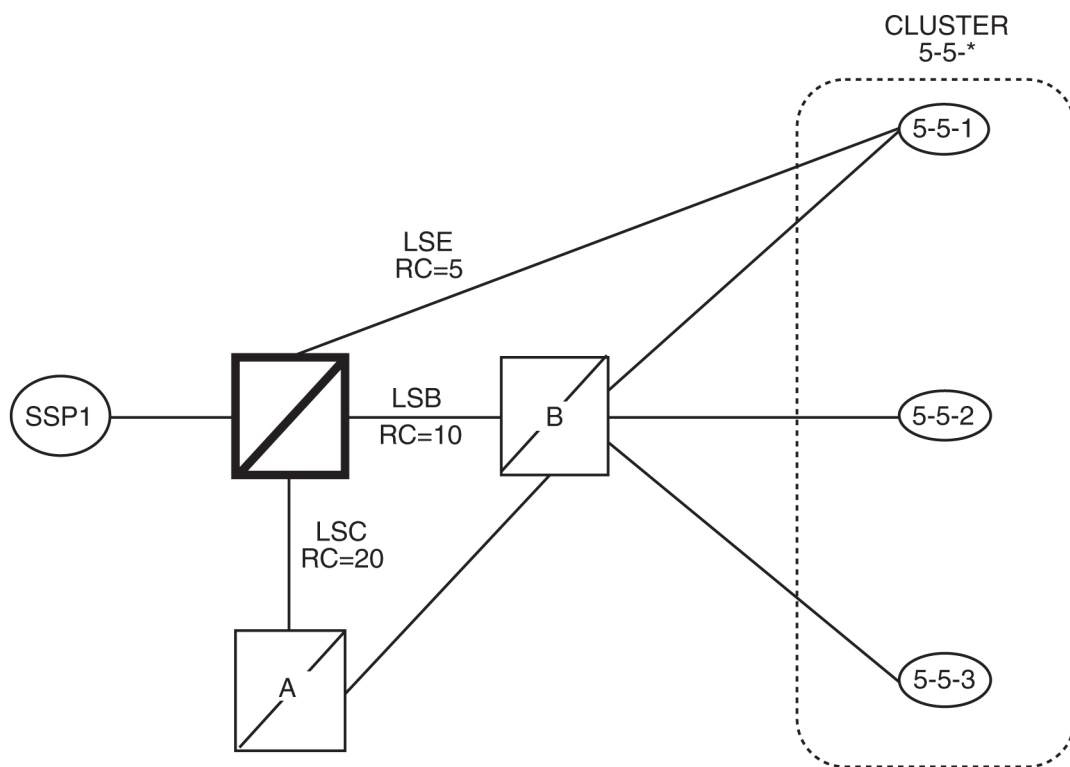

Figure 17: Nested Cluster Routing Sample Configuration
Figure 17: Nested Cluster Routing Sample Configuration provides an example of provisioning a nested cluster and its associated members.
1. The EAGLE 5 ISS allows the user to enter a full point code routeset entry even if the point code is a member of a cluster that has a different routeset. For example, in Figure 17: Nested Cluster Routing Sample Configuration, the provisioned member 5-5-1 has a different routeset than the cluster's routeset.
For example, in Figure 17: Nested Cluster Routing Sample Configuration, if linkset LSB fails, a TCP message for cluster 5-5-* is not broadcast because the least restrictive status of provisioned member 5-5-1 is allowed.
3. The EAGLE 5 ISS does not send preventive TCPs when it begins routing toward a nested cluster. The EAGLE 5 ISS sends response-method preventive TFPs if it receives an MSU and there is danger of circular routing. For example, in Figure 17: Nested Cluster Routing Sample Configuration, the EAGLE 5 ISS does not send a preventive TCP for cluster 5-5-* when routing to cluster 5-5-* over linkset LSB. However, if the EAGLE 5 ISS receives an MSU on linkset LSB destined for node 5-5-2, the EAGLE 5 ISS discards the MSU and sends a TFP to node B concerning node 5-5-2.
Figure 17: *Nested Cluster Routing Sample Configuration* provide an example of nested cluster routing. Table 11: *Routing Table for Nested Cluster 5-5-** and Table 12: *Routing Table for Full Point Code Member 5-5-1* show the routing tables for the cluster point code and one of the members of the cluster point code. Table 13: *Example of Nested Cluster Routing Failure and Recovery Actions* shows what actions the EAGLE 5 ISS takes when the linksets in a nested cluster configuration fail and recover. The actions in Table 13: *Example of Nested Cluster Routing Failure and Recovery Actions* are based on the example nested cluster routing configuration shown in Figure 17: *Nested Cluster Routing Sample Configuration*.